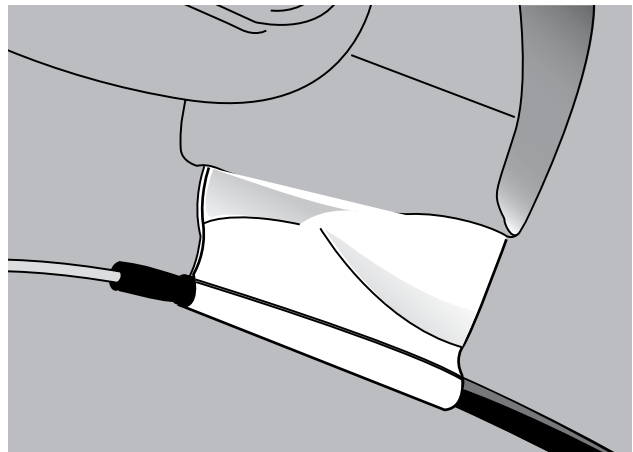

FIGURE 8
8. Apply 2 turns of protective sticky blue felt to the buffer tube 10 mm (0.4") from the cut end. (Figure 8)